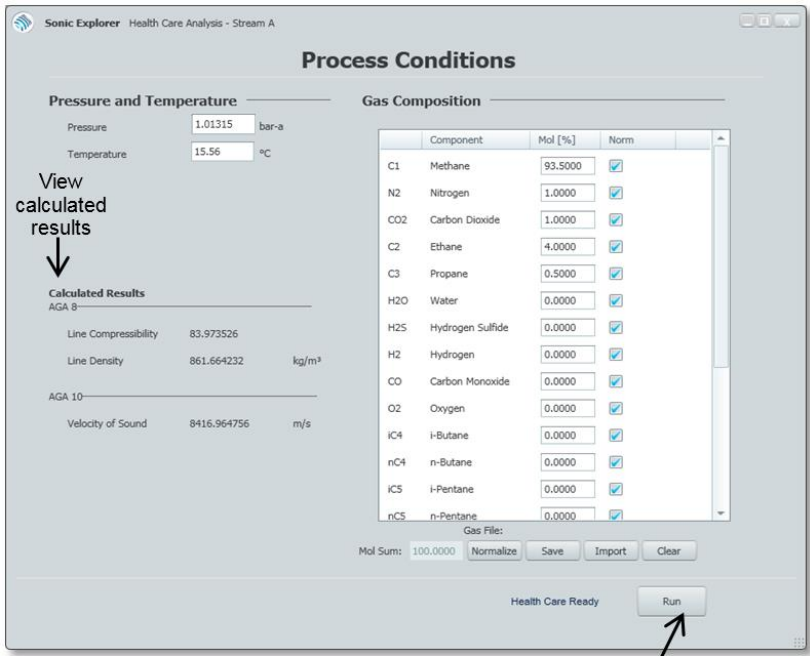

Figure 12-1 Process Conditions
- ✓ SonicExplorer will open a new window showing the **Process Conditions**. Please see Figure 12-1.
- ✓ Once all process conditions are filled in, three gas parameters are calculated: **Line Compressibility, Line Density** and **Velocity of Sound**. These are shown in the left hand side of Figure 12-1, under the heading **Calculated Results**.
As seen in Figure 12-1 There are four actions available related to the gas composition: **Normalize, Save, Import, and Clear**. These functions allow you to adjust which gas file you would like to use to run the analysis.
- ▶ Press **Run** (as seen in Figure 12-1).